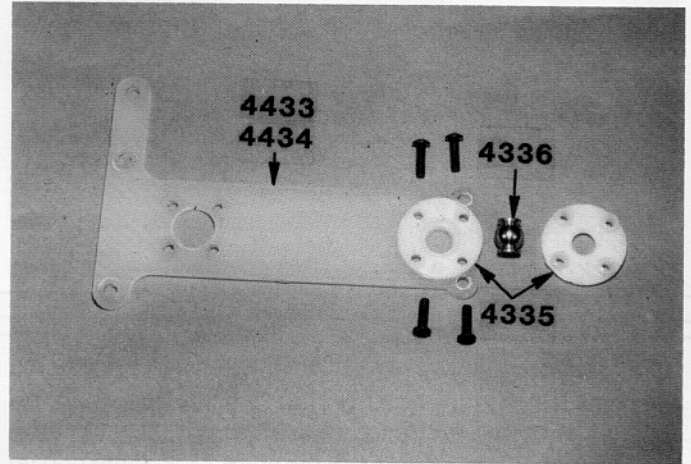

**Fig. 10**
□ **Figs. 10 & 11**—Your front end should now look like this.